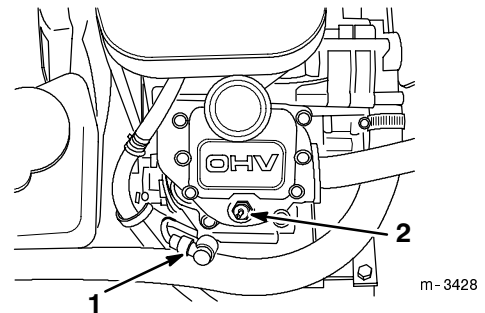

Figure 34
3. Pull the wires off the spark plugs (Fig. 34).
3. Push the wires onto the spark plugs (Fig. 34).